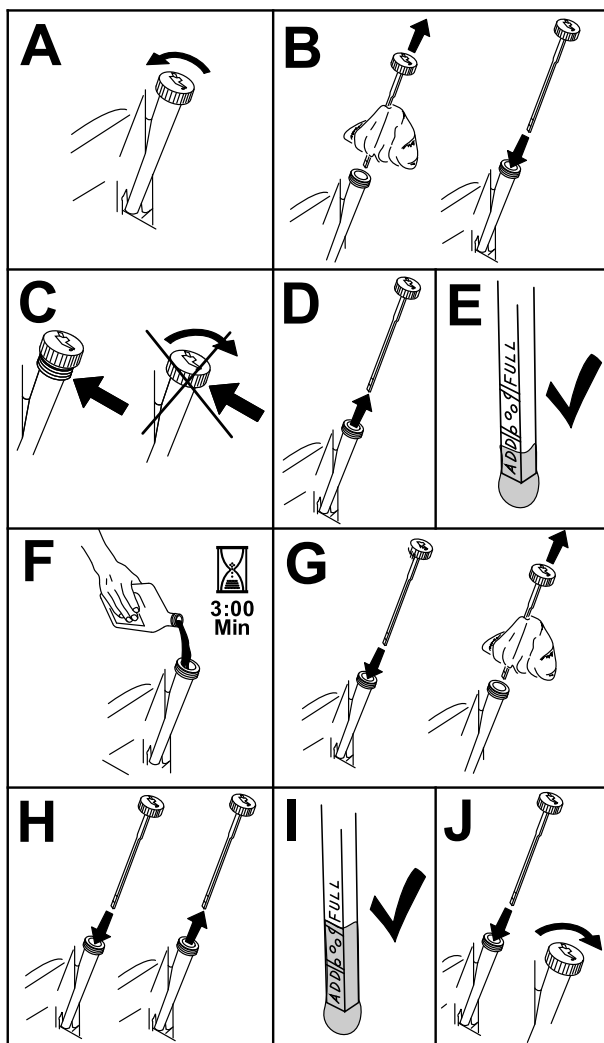

Figure 48
3. To keep dirt, grass clippings, etc., out of the engine, clean the area around the oil-fill cap and dipstick before removing it (Figure 48).